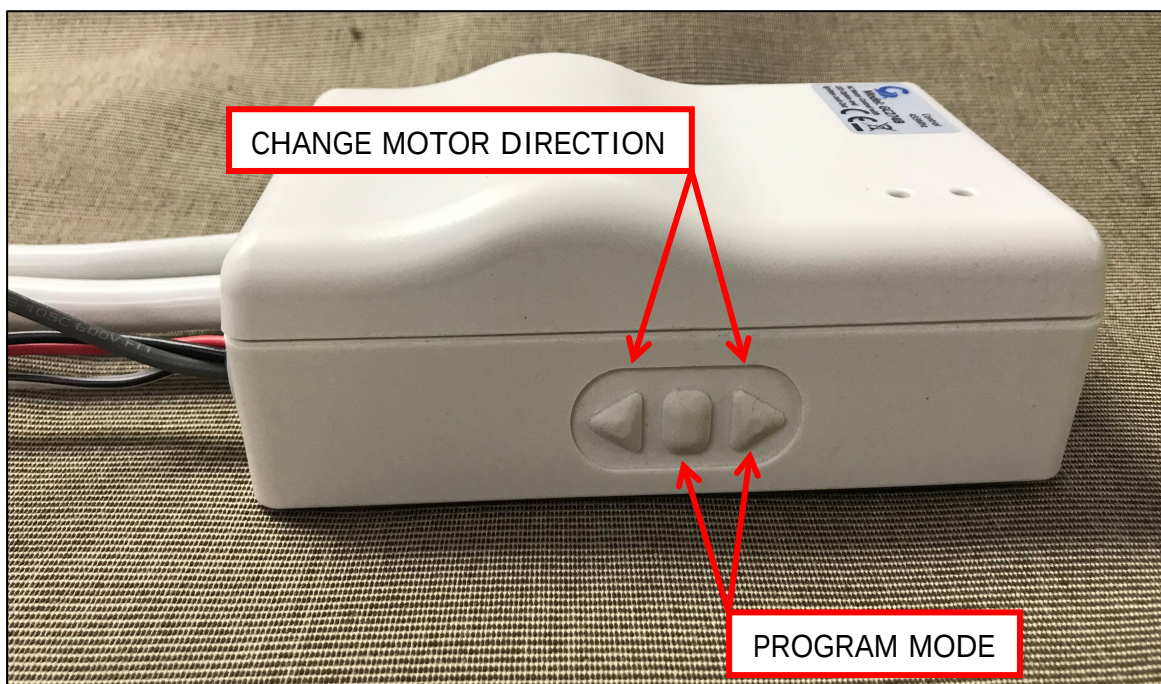

Fig.3
- b. Press and hold the **STOP** and **IN** buttons on the GC274H (Fig 3) for about 5 seconds until the Green LED starts to flash.